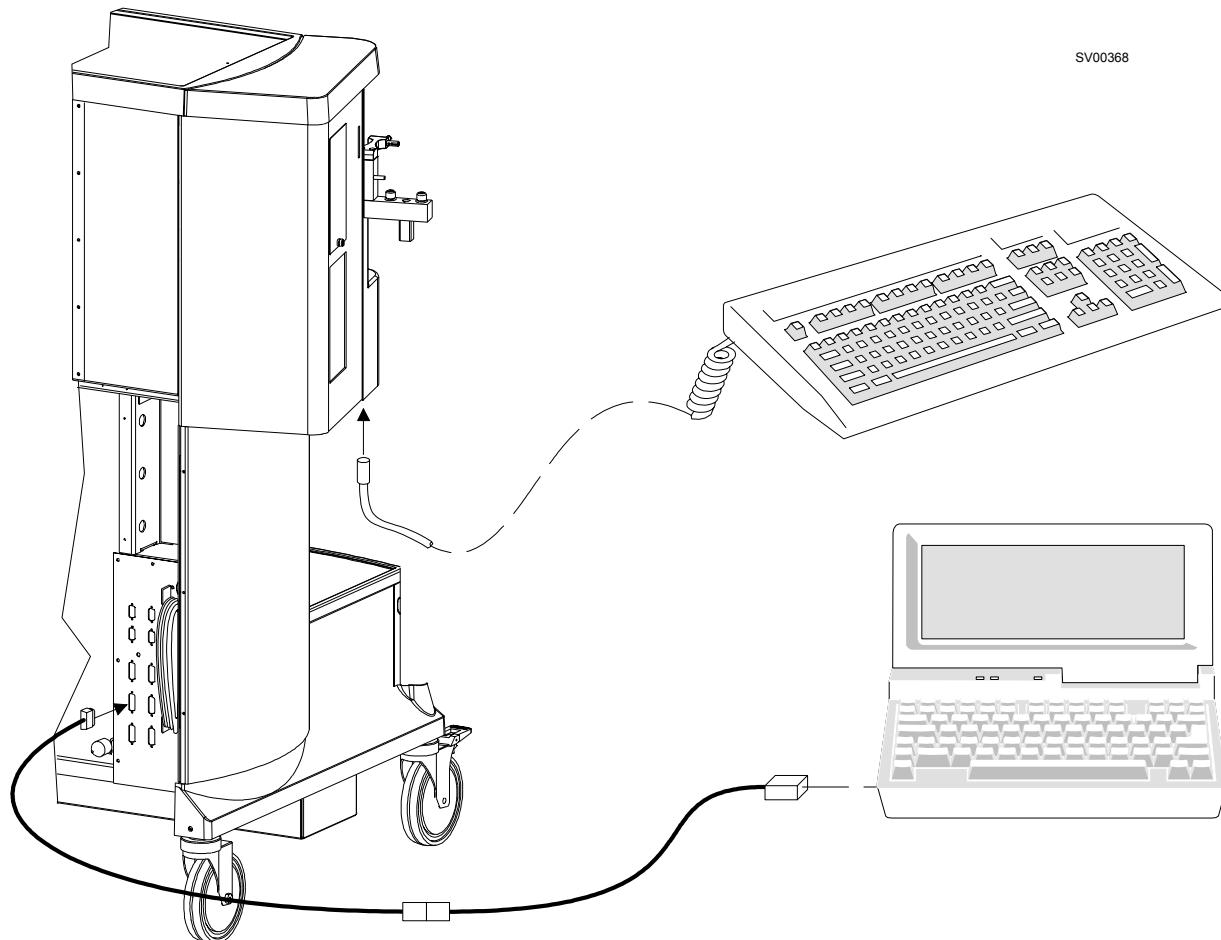

FIGURE 18. Keyboard and Laptop Connections
- 8.1 With the NM6000 System Power switch at STANDBY, connect the keyboard to the DIN connector on the underside of the NM6000 cockpit area. See Figure 18.